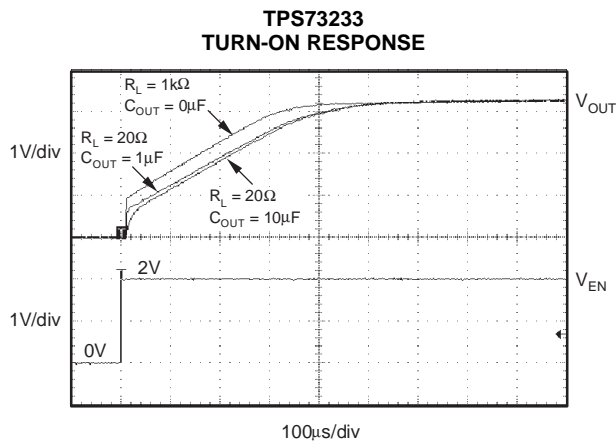

Figure 23.
The enable pin (EN) is active high and is compatible with standard TTL-CMOS levels. A  $V_{EN}$  below 0.5V (max) turns the regulator off and drops the GND pin current to approximately 10nA. When EN is used to shutdown the regulator, all charge is removed from the pass transistor gate, and the output ramps back up to a regulated  $V_{OUT}$  (see Figure 23).